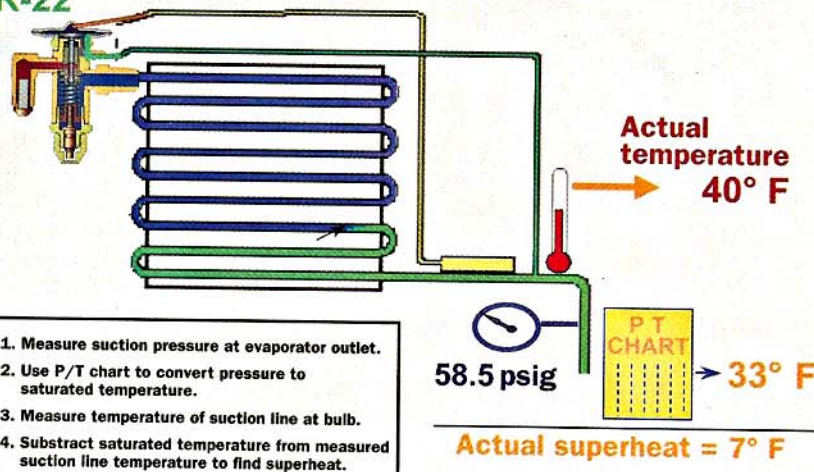

Figure 3
► **Measuring superheat.** Since good superheat control is the criterion of TXV performance, accurate measurement of the superheat is vital. This involves four steps, as shown in Figure 3. They are: